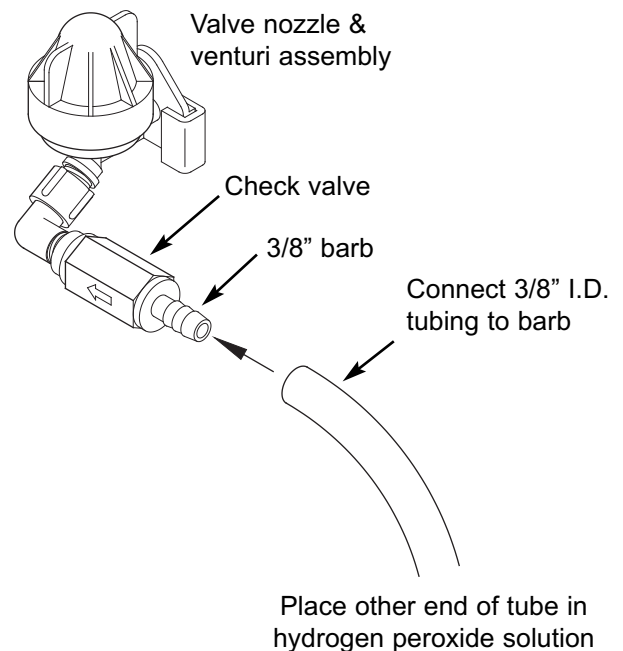

FIG. 11
3. Connect a length of 3/8 I.D. tubing to the barb on the aspirator check valve (See Figure 11).